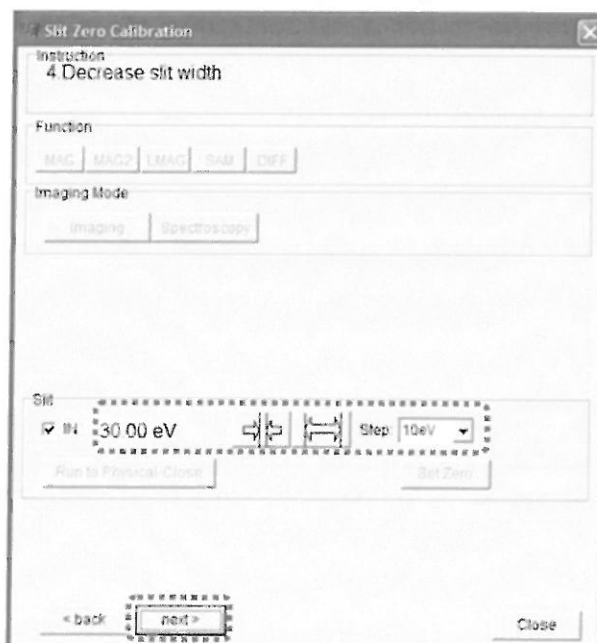

Fig. 5.59 Slit Zero Calibration - 4. Decrease slit width
4. Follow "Instruction – 4. Decrease slit width", and decrease the slit width gradually until it becomes zero (Fig. 5.59). After the slit width becomes zero, click the **next** button to proceed.